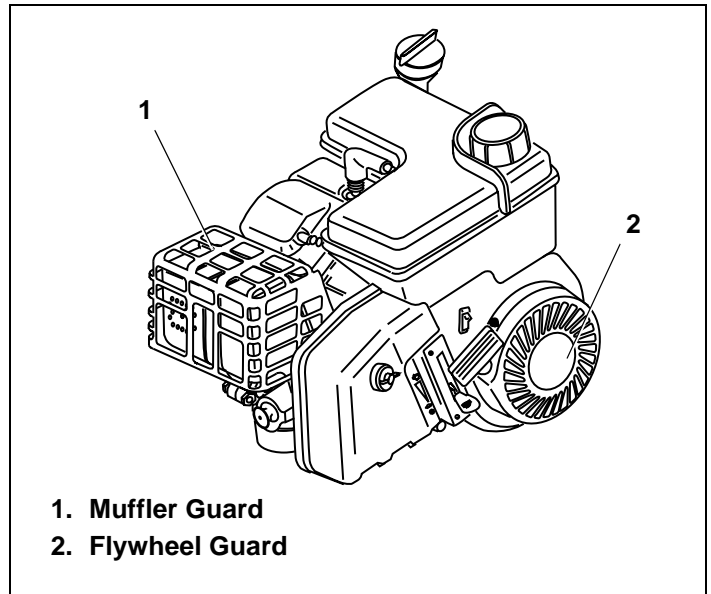

Figure 2. Typical Engine Guard Locations
- To avoid severe burns on contact, NEVER operate the engine without the muffler guard in place, see Figure 2 and avoid hot areas of the engine.